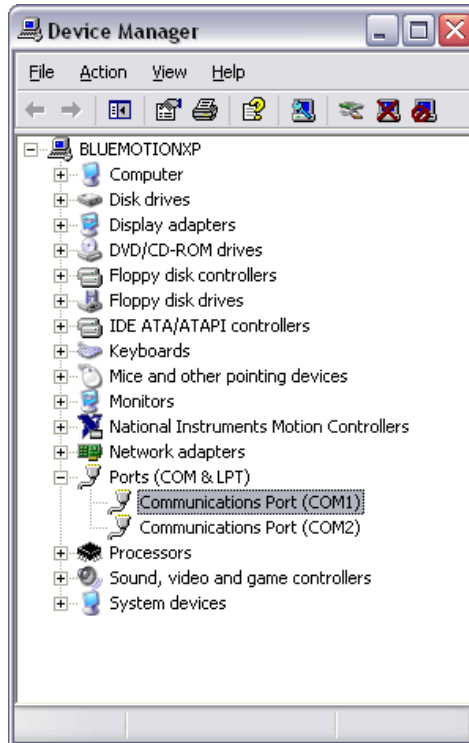

Figure 8. Selecting the COM1 Port in the Device Manager
2. Configure a COM port to be used with the serial cable. To change your COM port, open the Device Manager, click **Ports (COM & LPT)**, and double-click the desired COM port as shown in Figure 8.